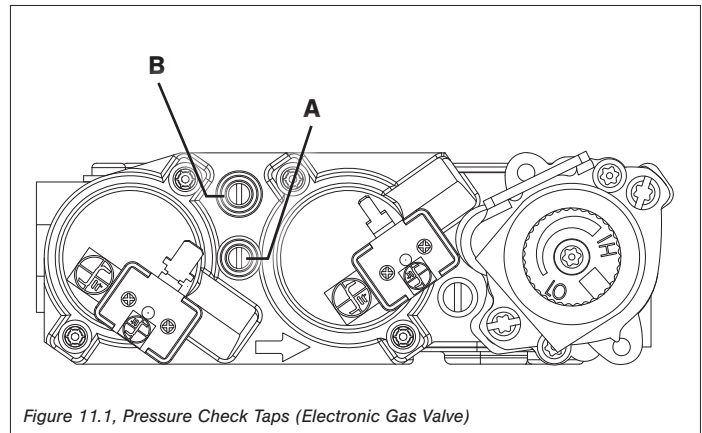

Figure 11.1, Pressure Check Taps (Electronic Gas Valve)
1. Loosen the inlet (IN) pressure tap by turning screw counter-clockwise. See (A) in Figure 11.1.
3. Set IPI/CPI rocker switch to CPI (ON).
7. Disconnect hose and tighten the inlet (IN) pressure tap by turning screw clockwise. Screw should be snug. Do not over tighten.
8. Relight pilot and burner. Then reattach manometer to the inlet pressure tap (A) to verify the tap is completely sealed. Manometer should read no pressure.
2. Loosen manifold (OUT) pressure tap by turning screw counter-clockwise. See (B) in Figure 11.1.
4. Set IPI/CPI rocker switch to CPI (ON).
8. Attach the manometer to the manifold pressure tap (B) to verify it is completely sealed. The manometer should read no pressure when pilot and burner are on.